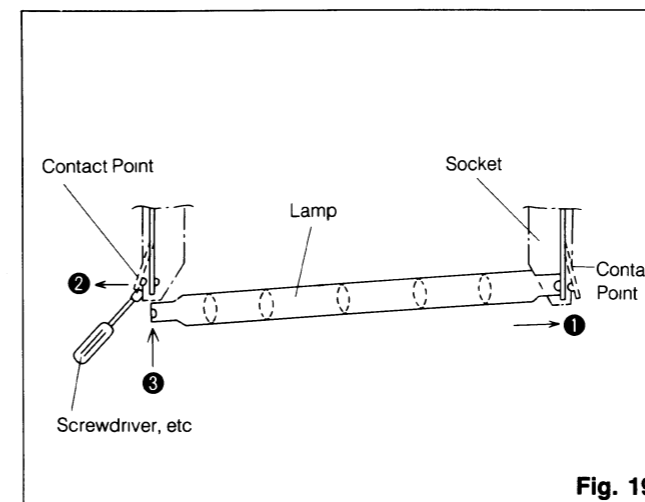

Fig. 19
- ⑥ Push the lamp contact point in the direction of arrow (1) and push the nearer contact point outward with a screw-driver or a similar tool. Push the lamp upward as shown in Fig. 19-(3) and fit the lamp into the pin contact point.